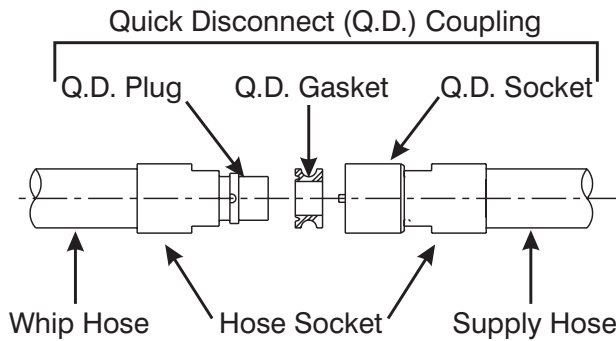

Figure 11-6. Quick Disconnect Components
1. Refer to Figure 11-6, and separate Q.D.